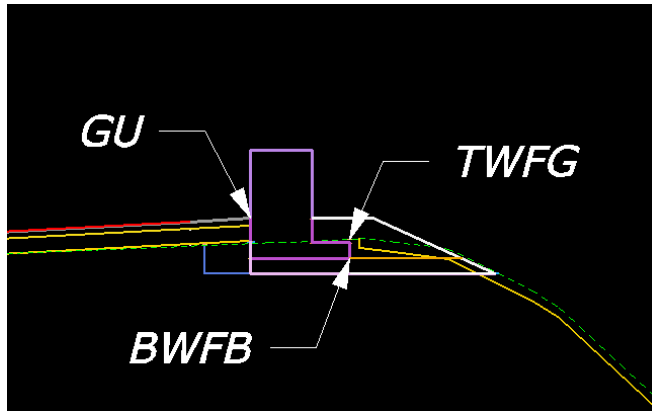

Figure 1-7: Search Text Locations
- Under Search Criteria, click on the button next to Proposed Finish Grade. Add the Lv Names to the Proposed Finish Grade dialog. The Proposed Finish Grade must travel from catch point to catch point, and it must pass through the text points GU and BWFB (See Figure 1-7 for text locations). The following levels must be specified for a guardwall: X_P_GD_Wall_Above; X_P_GD_Wall_Below and X_P_GD_Wall_Backfill2 and X_P_Parkway_Top. The existing ground level (X_E_Ground_XS) must also be included, to locate the TWFG text. Close the dialog box.
9. Add the search text for the Bottom of Guardwall Footing Back (BWFB) as shown below. Click on the Add tab to add the text to the search text box. Add the search text for the existing ground at the wall footing (TWFG). Click on the apply button to generate the chains and profiles based on the locations of the GU, BWFB and TWFG text (See Figure 1-7).